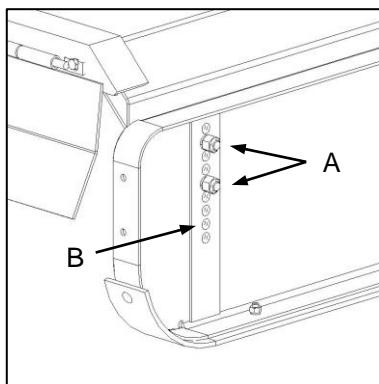

Fig. 3
- ✓ To set working height, remove the side panel retaining nuts (Fig. 3-A) and relocate the side panel position by selecting an appropriate hole position (Fig. 3-B). Ensure the implement is level by selecting similar hole positions at each adjustment point.
- ✓ Om die werkshoogte te verstel, verwyder die sypaneel klemmoere (Fig. 3-A) en verskuif die sypaneel posisie deur die gesikte gat posisie te kies (Fig. 3-B). Maak seker dat die implement gelyk is deur soortgelyke gat posisies by elke verstelpunt te kies.